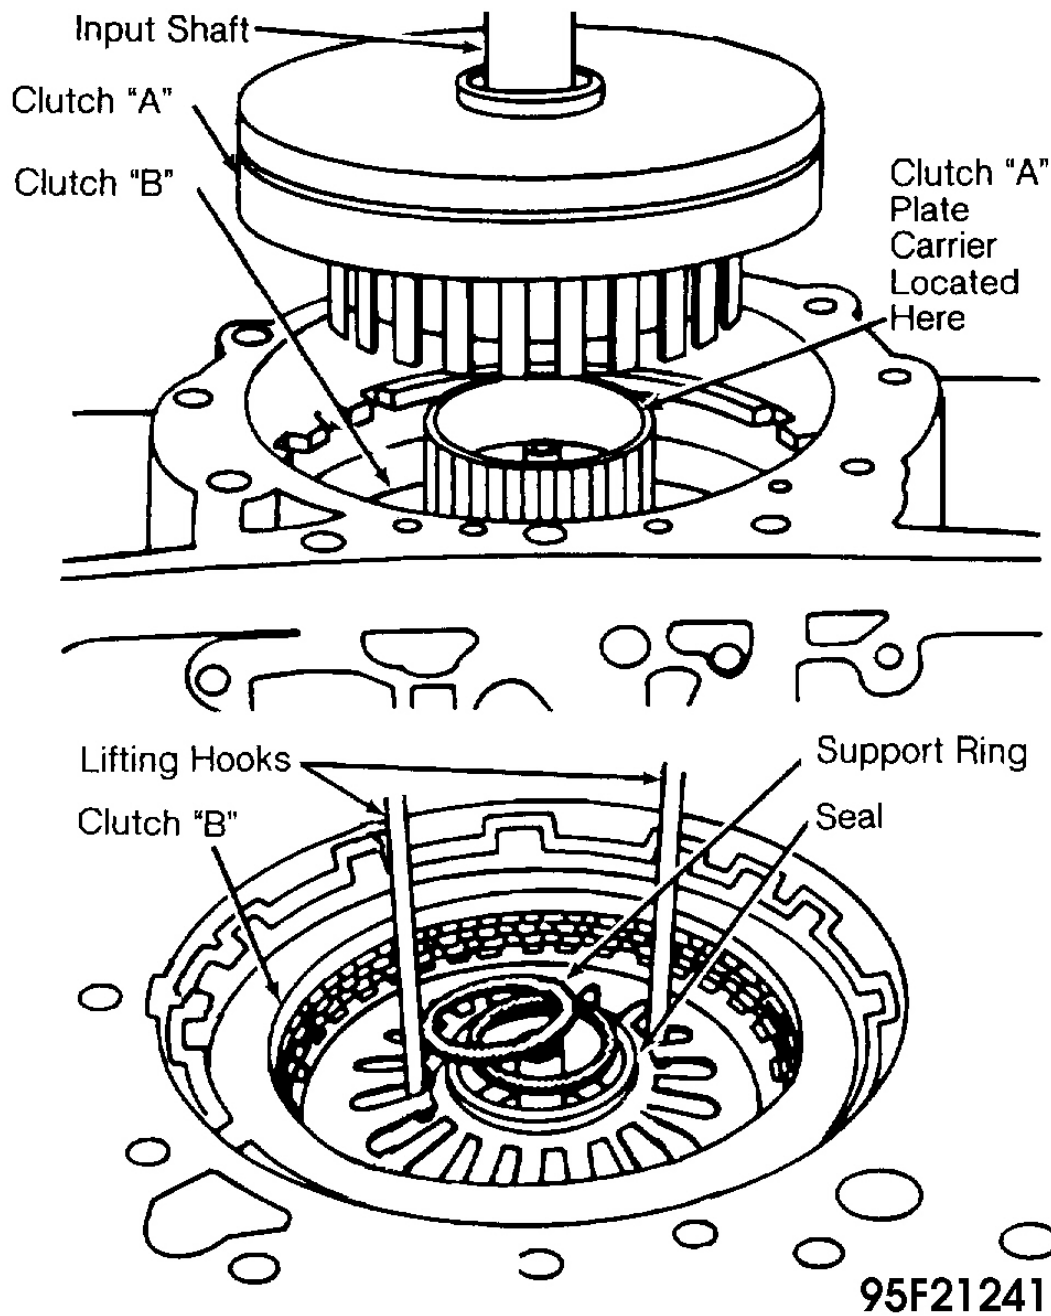

Fig. 6: Removing & Installing Clutches "A" & "B"
5. Position transmission with oil pump facing upward. Remove bolts and torque converter bellhousing and transfer plate. Remove angled washer, axial bearing and thrust washer from input shaft. Remove input shaft and clutch "A". See **Fig. 6**.
6. Remove clutch "A" carrier plate, angled thrust, thrust bearing and metal thrust washer. Remove clutch "B" retaining snap ring. Using 2 lifting hooks, remove clutch "B" and support ring and seal. See **Fig. 6** .